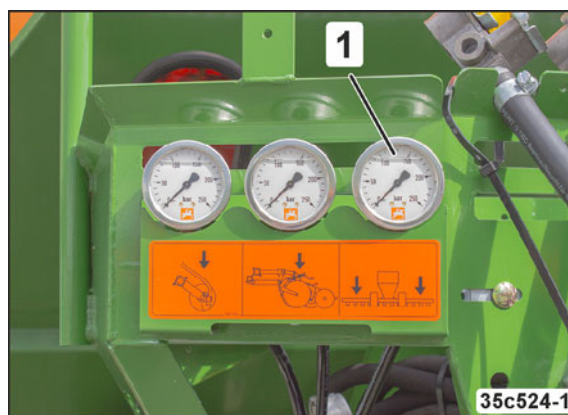

Fig. 86
- from the tractor seat on the pressure gauge (Fig. 86/1).